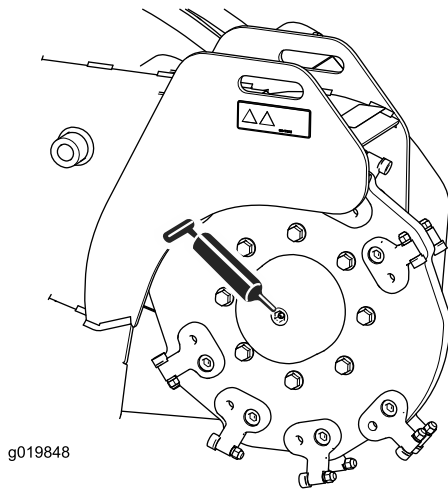
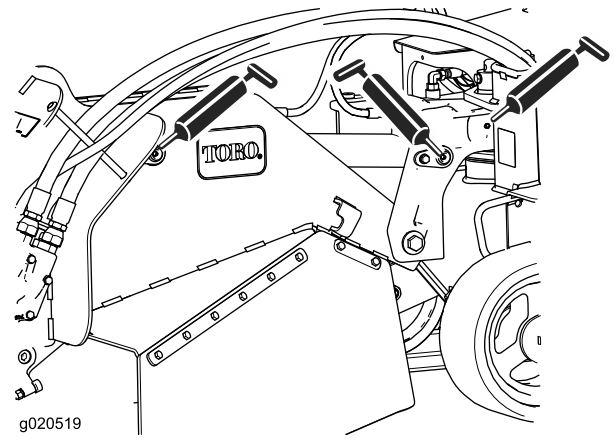

Figure 26
Figure 28
3. Connect a grease gun to each fitting (Figure 26 through Figure 28).